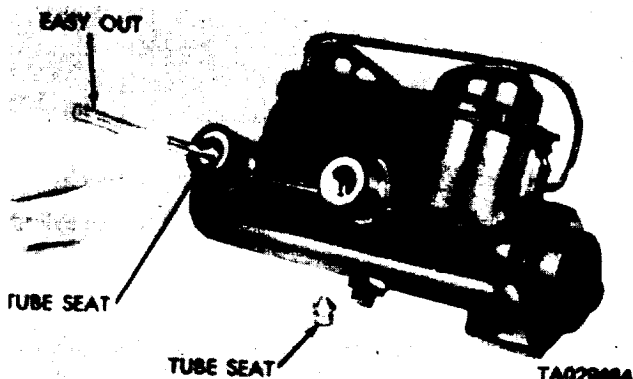

Figure 22-3. Removing Tube Seat.
(3) Remove the tube seats by placing an "Easy Out" into the seats. Loosen and remove the seats using a hammer (figure 22-3).